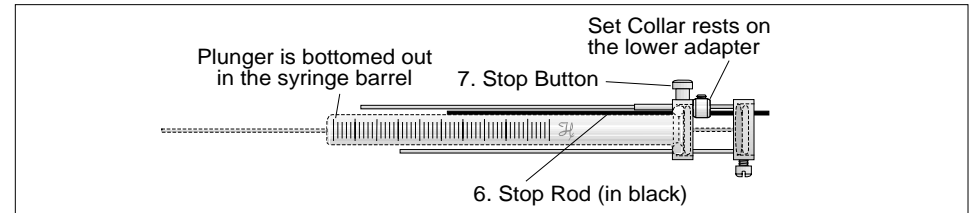

Figure 4.
8. Slide the set collar (3) to the top of the longest rod on the upper Chaney adapter and tighten it with the Allen wrench.
10. Bring the upper and lower halves together gently until the plunger reaches the zero mark (Figure 4).